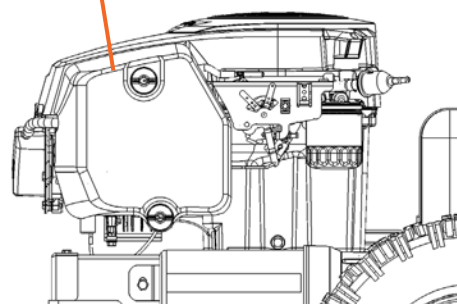

Figure 14
1. Wipe off the air cleaner cover. Loosen the knob at the bottom and top of the air cleaner cover (see Figure 14).